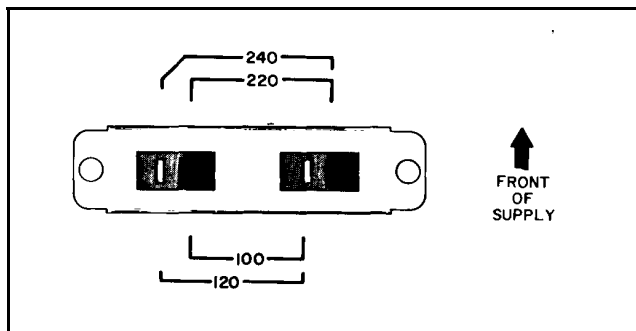

Figure 3-2. line Voltage Selector (Set for 120 Vac)
Before applying power to the supply, make certain that its line voltage selector switch (S3) is set for the line voltage to be used. This switch is mounted on the circuit board behind the voltmeter and is visible through the perforations in the top cover. The positions of the two white marks on the switch indicate the switch setting (see Figure 3-2). If the switch setting does not correspond to the intended power source, proceed to paragraph 3-4 before applying power.
1. After making certain that the line cord is disconnected from a source of power, remove the top cover from the supply and set the two sections of the line voltage selector switch for the desired line voltage (see Figure 3-2).